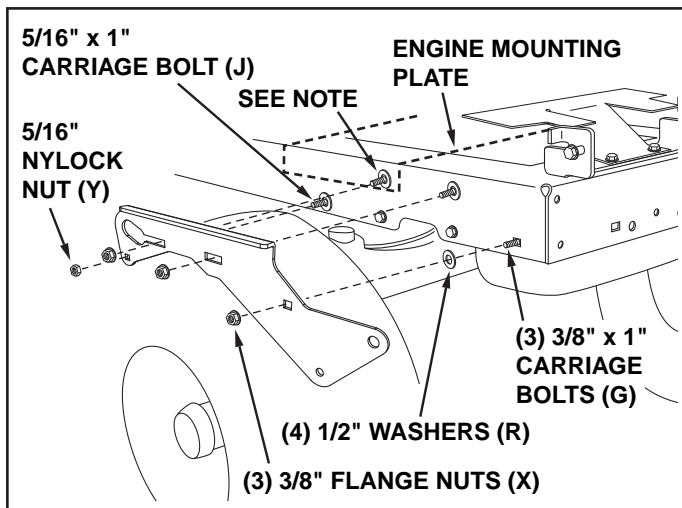

FIGURE 3 RIGHT SIDE VIEW
STEP 3: (SEE FIGURE 3)
- Fasten the R.H. Side Plate (bend facing out) to the front three holes in the tractor frame using three 3/8" x 1" carriage bolts (G), three 1/2" washers (R) (see note) and three 3/8" flange nuts (X). For the rear hole, use a 5/16" x 1" carriage bolt (J), a 1/2" washer (R) and a 5/16" nylock nut (Y). Place the 1/2" washers (R) between the tractor frame and the side plate. Repeat for L.H. side plate.